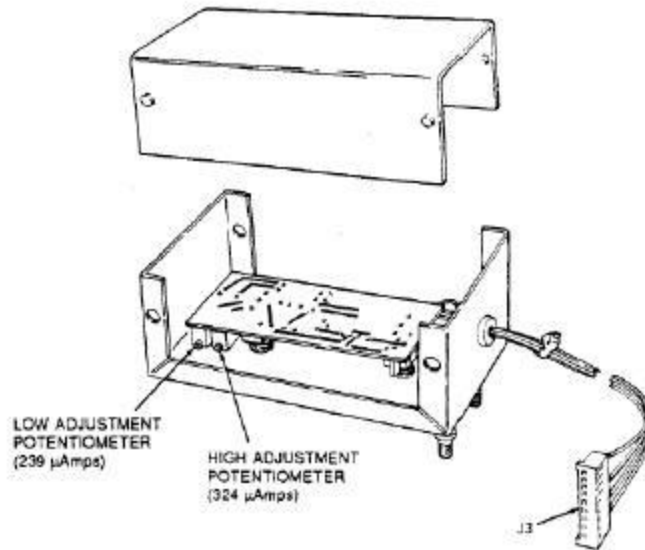

Figure 7-3. Temperature Calibration Box with Back Removed
- d. Set Temperature Calibration Box switches to LOW and CAL positions. The m amp meter should read 239 micro amps. If the meter does not read 239 m amps, open the Temperature Calibration Box and adjust the potentiometer, figure 7-3.
- f. Set Temperature Calibration Box to HIGH. The m amp meter should read 324 m amps. If meter does not read 324 m amps, open Temperature Calibration Box and adjust the potentiometer, figure 7-3.